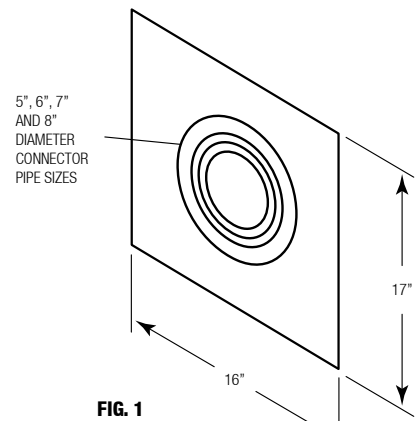

FIG. 1
1. There are 3 types of installations: (1) where a thimble hole already exists in a properly lined chimney; (2) an installation that requires a new thimble and (3) an installation incorporating a new Listed stainless steel liner system. In all cases, the Saf-T Thimble template will be used. The Template is printed on the carton in which the Saf-T Thimble is packaged. See Fig. 1.